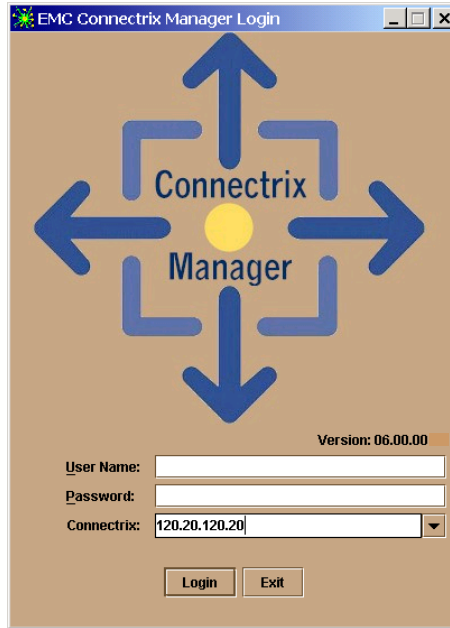

Figure 3-1 Connectrix Manager Login Window
2. On the Connectrix Manager Login screen (Figure 3-1), enter your username and password. (Usernames and passwords are case-sensitive.)